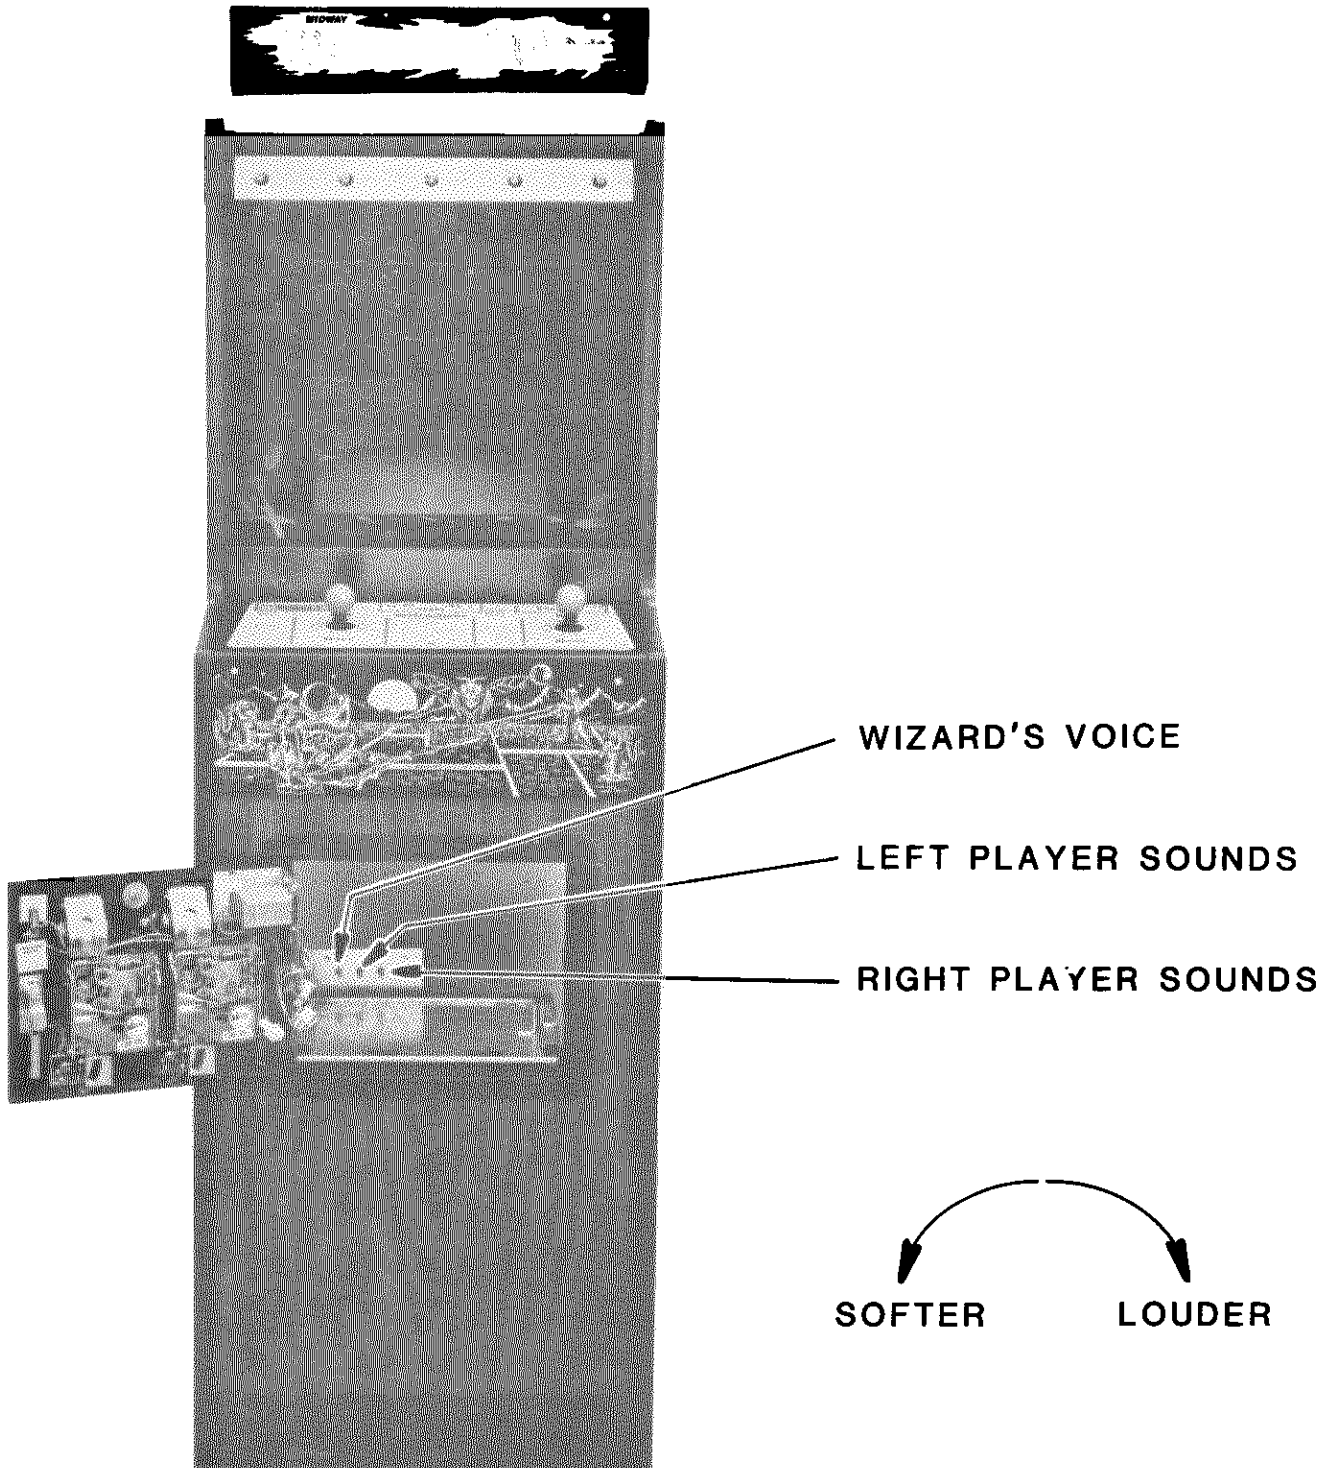

FIG.8
F. OPTION SWITCH SETTINGS — See Figure 8: